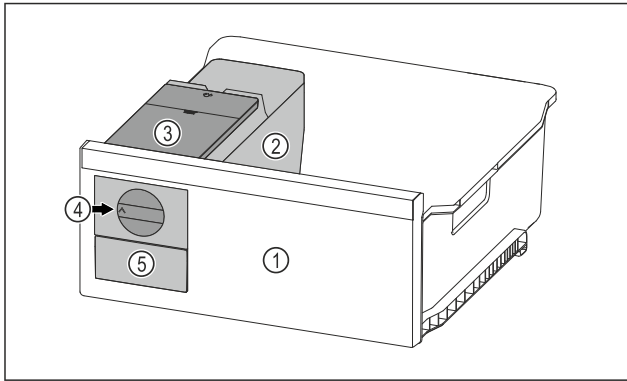

Fig. 127 Example illustration
- ▶ Turn the rotary knob Fig. 127 (4) clockwise as far as it will go.
- ▶ Ice cubes fall from the ice cube tray into the ice cube drawer Fig. 127 (5).